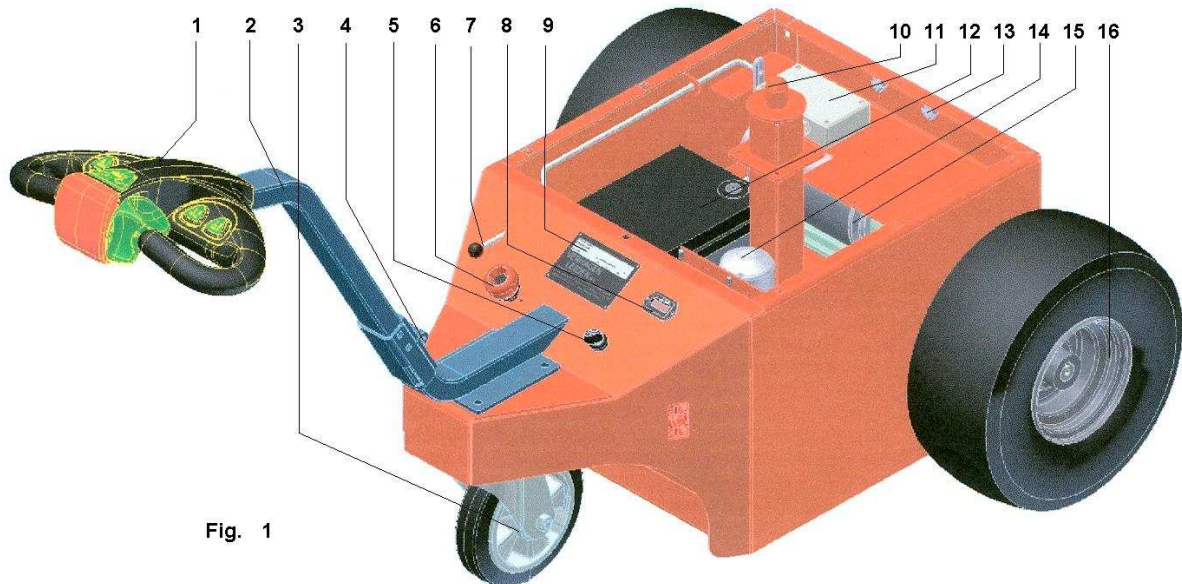

Fig. 1
5.3 Operation (see photo, fig. 1)
The ignition lock (5 fig. 1) is used to switch off the batteries, **always switch off the battery in case of maintenance to the Multi-Mover XL+.**